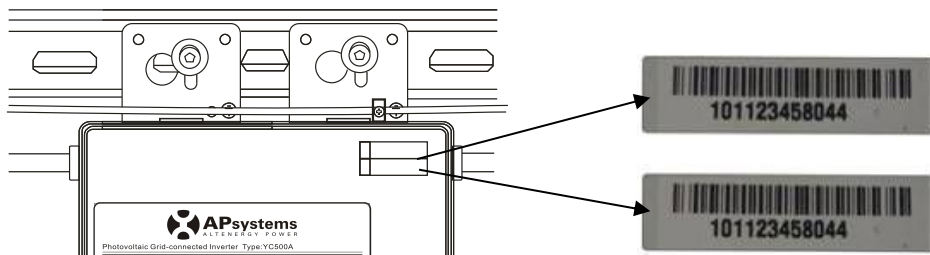
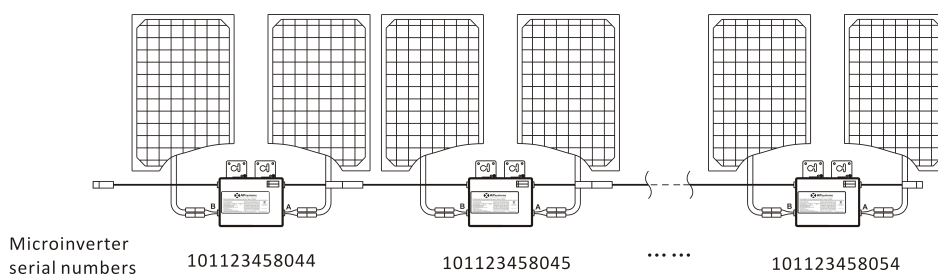

Figure 12
Figure 13
- Each APsystems Microinverter has removable serial number labels. Peel labels off, affix one to the respective location on the APsystems installation map, and fill in A,B in the label below(as Figure13) according to the layout on the roof(as Figure 12). Then affix another label to the PV module frame which is easy to see. The warranty cards can obtain from the appendix of this manual or APsystems website [www.APsystems.com](http://www.APsystems.com)